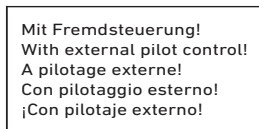

Fig. 2: Reference plate on external pilot control valve systems
- End plates for external pilot control: the valves are supplied external pilot control air via connection X. Vital at a working pressure of < 2.5 bar or during vacuum operation. External pilot controlled valve blocks are identified by a reference plate on the left end plate, see figure 2.